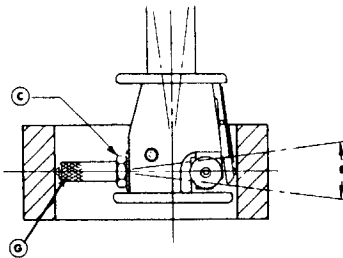

FIGURE 1
2. See Figure 1. Screw correct range Gage Point (G) into gaging head.